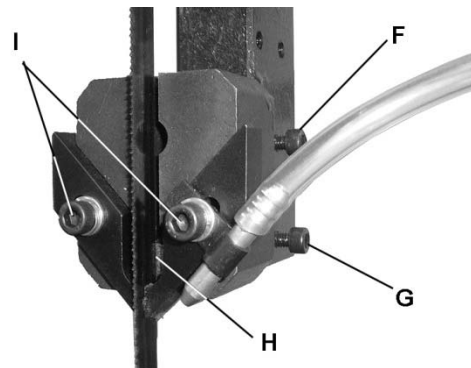

Figure 10
2. Loosen screw (F, Figure 10) and slide blade guide assembly away from blade until it stops.
3. Loosen screw (G, Figure 10). Slide blade stop (H, Figure 10) toward blade until a gap of 1/32" remains. Tighten screw (G, Figure 10).
4. Slide blade guide assembly toward blade until blade guides are just behind the gullets as in Figure 10. Tighten screw (F, Figure 10).
6. Loosen two hex cap screws (I, Figure 10) and adjust each finger toward the blade. They should not touch the blade. Adjust for 0.010" clearance on either side.
7. Tighten two hex cap screws (I, Figure 10) once proper adjustment has been made.